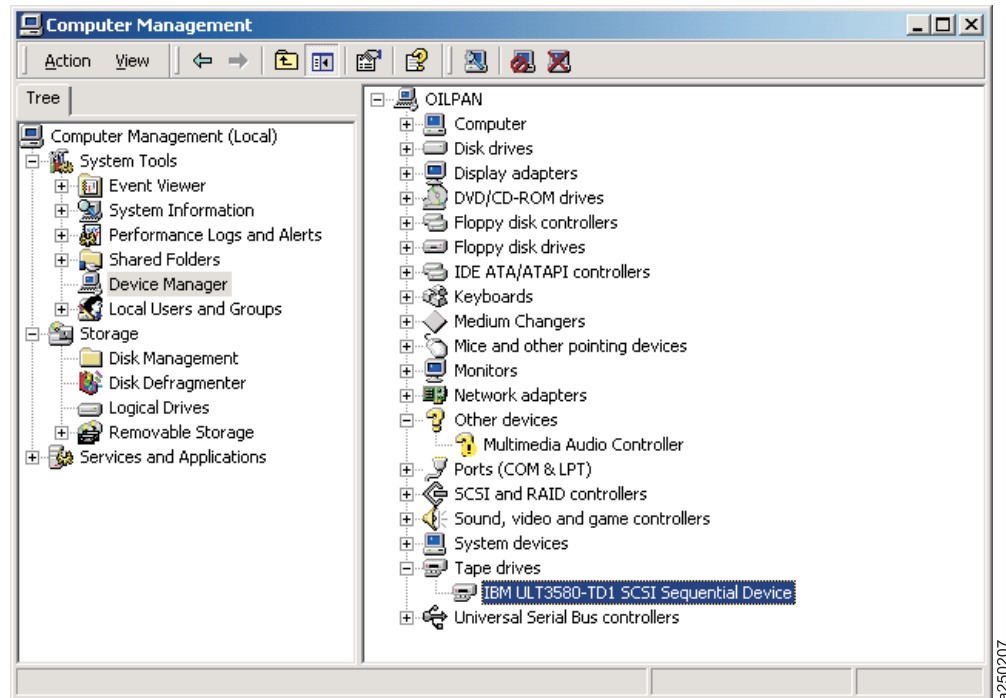

Figure 35. Verifying the Ultrium Device Was Installed Correctly
17. You should be able to verify that the device was installed correctly. See Figure 35 on page 219. Repeat steps 8 through 16 for every device you install. Remember, if you are installing a tape library you will need to install drivers for both the tape drives and the medium changer. To install the medium changer driver, follow steps 8 through 16 on all discovered Medium Changer devices.